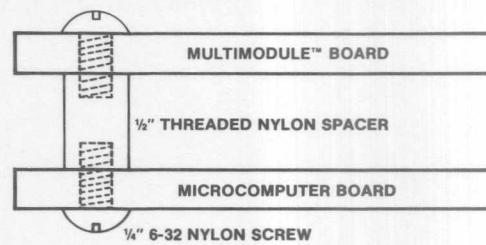

Figure 2-4. Mounting Technique
- With a non-metal ¼ inch x 6/32 screw, secure the ½ inch plastic spacer to the host iSBC microcomputer as shown in figure 2-4.